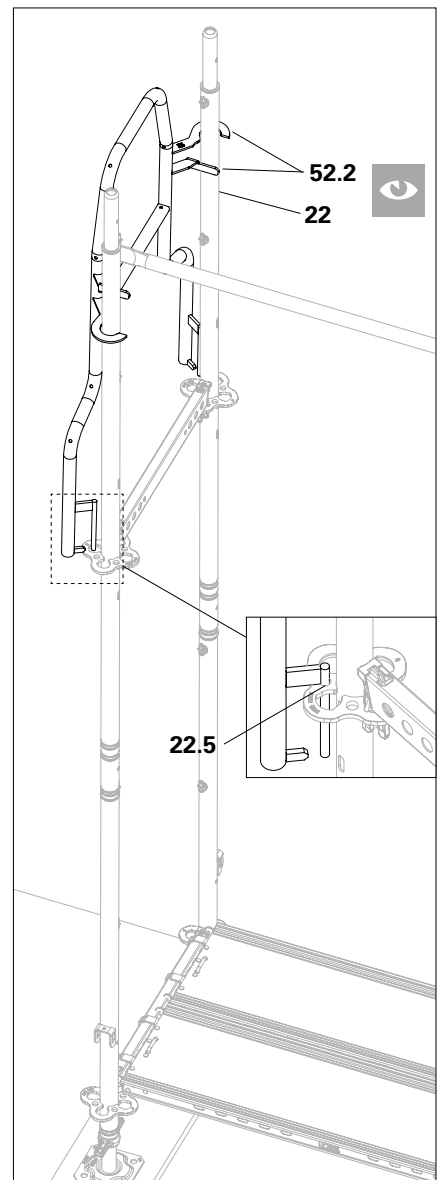

Fig. A3.12d
4. Raise the end guardrail in advance and insert the pegs (52.1) into the brace adapter (22.5) of the rosette from above. Lower the end guardrail in advance as far as it will go. (Fig. A3.12d)
- End Guardrail UPA in advance is now installed. (Fig. A3.12d)